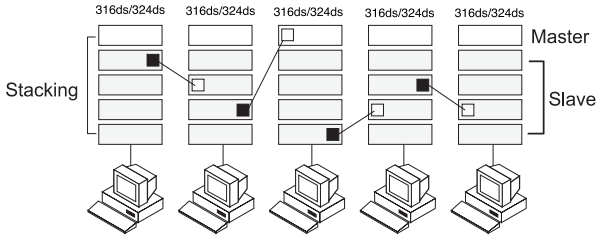

Figure 3-5 Unlimited cascading of ALH-316ds/324ds.
- By way of an uplink port with a Bridge function, the limitations on 100Mbps hub count(maximum 2) can be eliminated. The hub count is unlimited and cable length between hubs can reach 100meters, as shown in Figure 3-5.